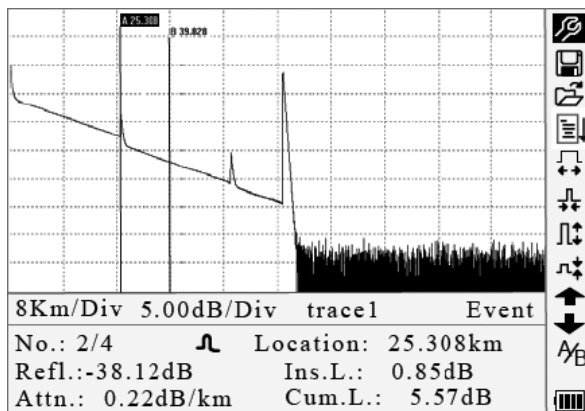
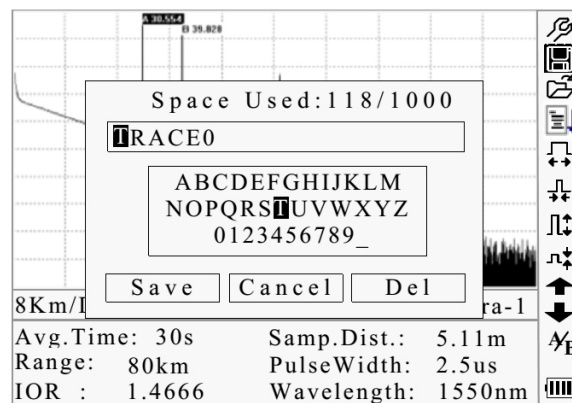
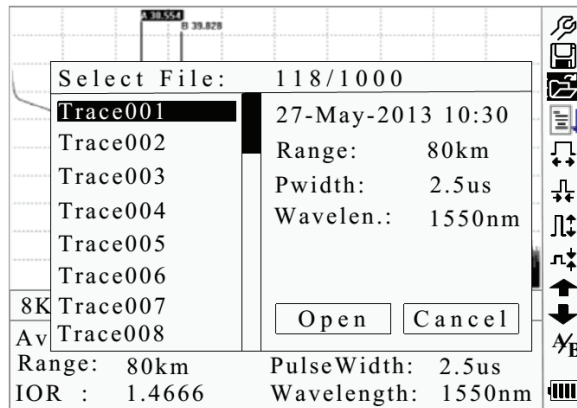

Figure 4-4. Trace Measurement
Figure 4-6. Save a Trace
Figure 4-7. Browse Saved Traces
Note: After a certain period of time, the trace displays on the GUI. The trace in the figure below is a trace during measurement, which will be refreshed for every certain period of time to demonstrate the whole process in realtime. But at the end of measurement the trace will be complete, as shown in Figure 4-4.
Under GUI (Figure 4-4) press  and the items in the information window will display in this order: measurement parameters → analysis information → events list → marker A/B information → fiber information → measurement parameters.
Under GUI (Figure 4-4) press  until the events list information appears in the information window.
Under GUI (Figure 4-4) use  and  to highlight A/B, and then press Enter to switch between marker A/B.
Under GUI (Figure 4-4) press  to switch information window to marker A/B information.
1. Under GUI (Figure 4-4) use  and  to highlight , and then press Enter to zoom out the trace horizontally.
Under GUI (Figure 4-4) use  and  to highlight , and then press Enter to zoom out the trace vertically.
1. Under GUI (Figure 4-4) use  and  to highlight , and then press Enter to zoom out the trace vertically.
Under GUI (Figure 4-4) use  and  to highlight , and then press Enter to zoom in the trace vertically.
1. Under GUI (Figure 4-4) use  and  to highlight , and then press Enter to enter (Figure 4-6).
- Under GUI (Figure 4-4) use ▲ and ▼ to highlight , and then press Enter to confirm (Figure 4-7).